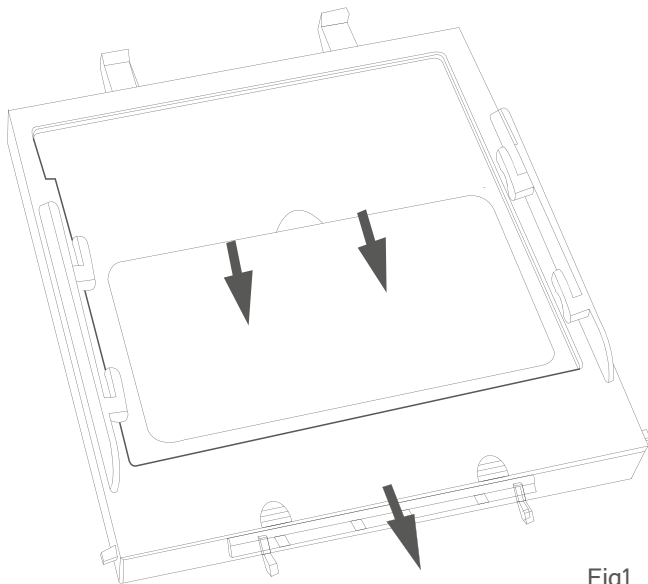
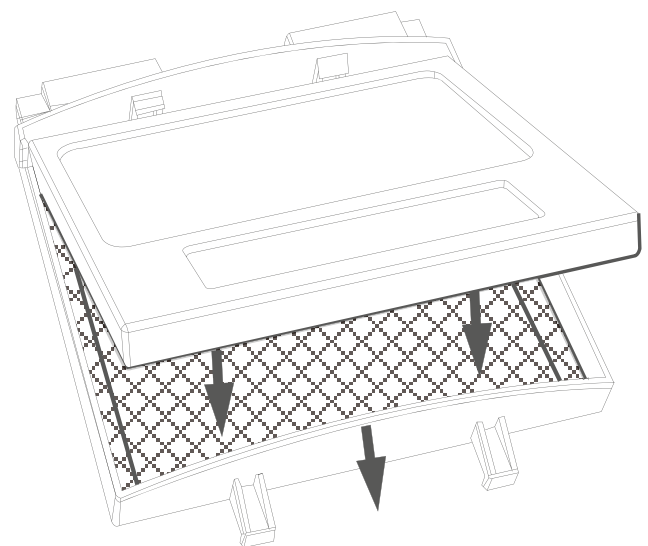

Fig1
Fig2
**Replacing External Cover Lens:** Remove filter holder by moving locks toward center (Fig.1) and lift up the filter holder to remove/replace the external cover lens.
**Change the Shade Cartridge:** Remove filter holder assembly from helmet shell (See Fig.1). Then flex top end of the filter holder to allow filter cartridge to be removed from the frame. Install new filter cartridge into frame (See Fig.2). Make sure that the filter cartridge is inserted in filter holder correctly as shown and install filter holder assembly into helmet shell.